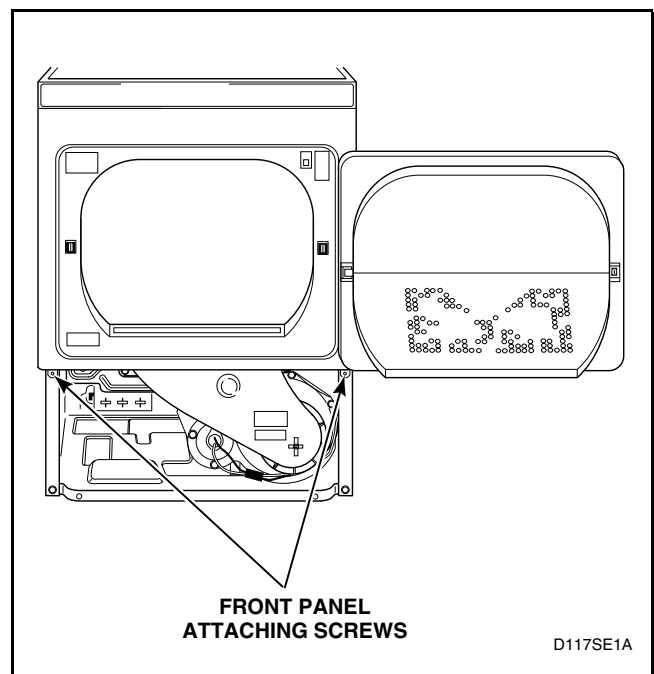

Figure 22
- Remove two screws holding bottom tabs on front panel to dryer cabinet. Swing front panel away from dryer to disengage hold-down clips and guide lugs from cabinet top. Refer to *Figure 22*.
- j. Remove two screws holding bottom tabs on front panel to dryer cabinet. Swing front panel away from dryer to disengage hold-down clips and guide lugs from cabinet top. Refer to *Figure 22*.
- k. Remove two screws holding bottom tabs on front panel to dryer cabinet. Swing bottom of front panel away from dryer to disengage hold-down clips and guide lugs from cabinet top. Refer to *Figure 22*.